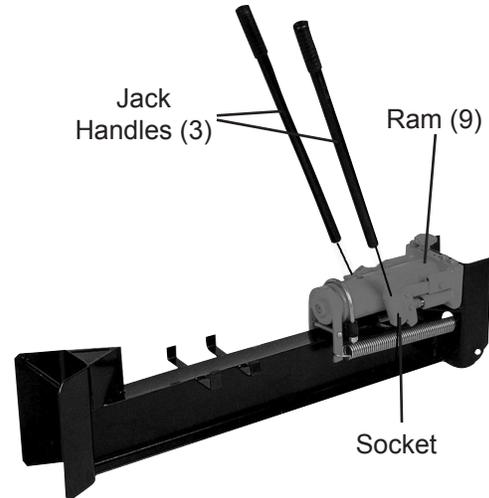

Figure 1
1. To assemble, insert one Jack Handle (3) into each of the sockets on the Ram (9). See Figure 1, above.